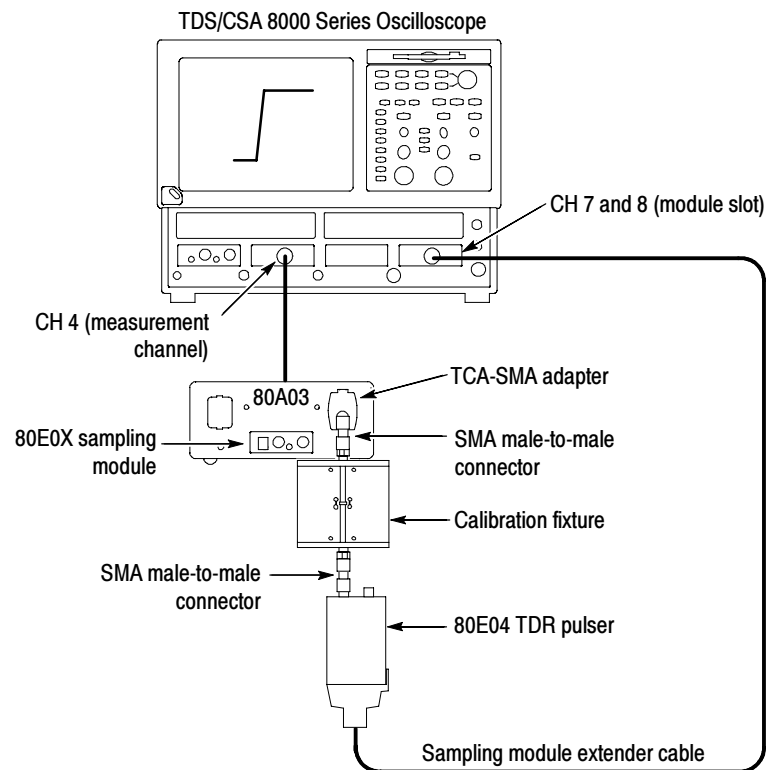

Figure 17: Test system rise time setup
2. Connect the test equipment as shown in Figure 17. A sampling module extender cable is used with the TDR pulse generator to minimize cable loss problems.
7. Adjust the oscilloscope horizontal and vertical position controls to display a signal similar to that shown in Figure 17.